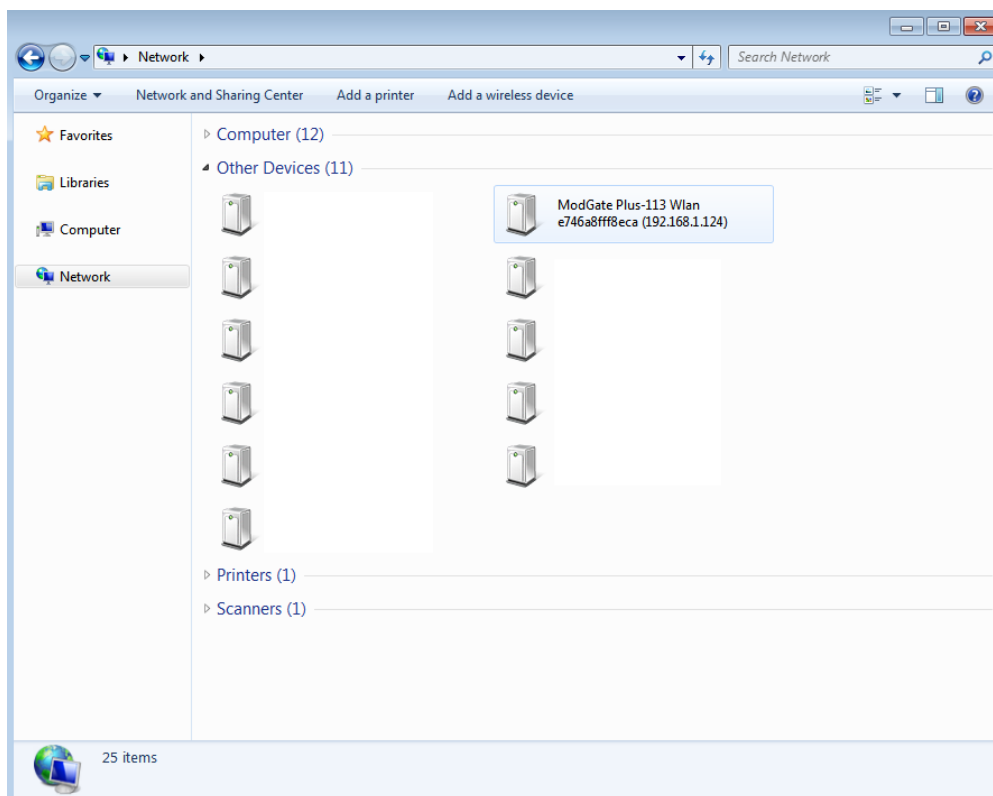

Figure 37: Network View (Windows 7)
2. Click on the folder symbol or press Win-Key + E, and click on Network. Can you find the ModGate Plus under Other Devices? This may look like Figure 37. If yes, you have found the device. If no, continue.